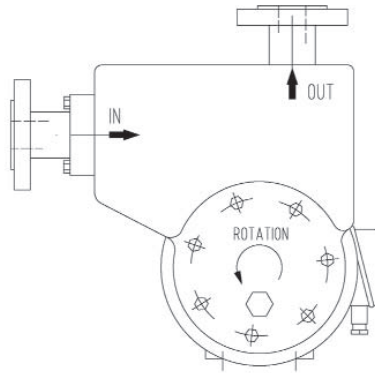

Figure 1: Direction and Port Location
- 2) Start the motor briefly to ensure that the pump is rotating in the correct direction. The motor should rotate in the direction shown (viewed from in front of the pump) to obtain the required direction of flow (see Figure 1).